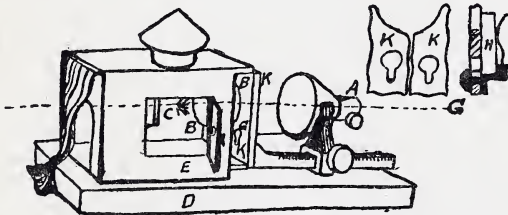
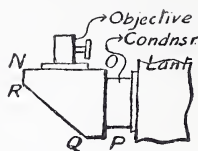

Fig. 49.—Diagram of Typical Lantern.
Fig. 51.—Aphengoscope.
A description of a typical lantern will serve to make clear the salient parts of any other lantern and their functions. Such an instrument is the "Universal Projection" or "Demonstrator's" lantern. Its salient parts are: (1) an objective, A, fig. 49, which is a compound convex lens for projecting an image of the object on to the screen; (2) a condenser, B, which is also a compound convex lens, to direct as large an amount
of light as possible on to the object, and to light it up uniformly; (3) a source of light, C, preferably an injector jet limelight or an arc lamp: these parts are arranged in the relative positions shown in fig. 49, care being taken to have the axes of the objective and condenser coincident and the centre of the spot of light forming the source on the axial line, for reasons explained below (see section on the Principles of Projection); (4) a stage, D, to accommodate the object; (5) a body, E, to keep the parts in their proper positions and to cut off stray light. The body is fitted with ventilators, inspection glasses, and two doors and a curtain for closing the hand-holes which have to be provided to allow of manipulation. The condenser and source of light are carried by the body; the other parts are held by the framework as shown.
For projecting opaque objects, such as live animals and working models, so as to show them in their natural colours and in perspective, a contrivance known as an aphengoscope is employed in conjunction with the lantern. A convenient form of aphengoscope is that shown in plan in fig. 51. *NOPQR* is a five-sided box with a base, but without a lid. The angles *N*, *O* and *P* are right angles. Each of the angles *Q* and *R* measures 135° . The object to be projected is placed close to the side, *QR*, of the box connecting the apices of these angles. The side *OP* fits up against the front of the lantern, and is cut away where necessary to allow the light to pass through from the condenser. The adjacent side, *ON*, is provided with a flange to take the objective. The holes for the condenser and objective are situated so that the object may be well illuminated and give a bright image. When the aphengoscope is to be used, the objective is removed from the lantern and fitted into the aphengoscope instead. The body of the lantern is then turned through a right angle about a vertical axis and the aphengoscope fitted to its front. Fig. 51 shows the aphengoscope in position. The aphengoscope rests on the stage of the lantern, *D*, fig. 49.